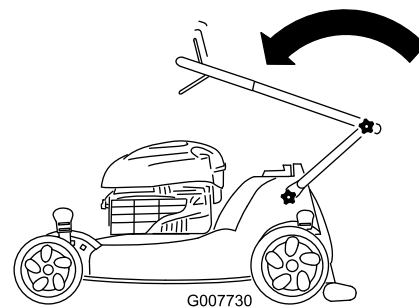

Figure 55
2. Fold the upper handle forward as shown in Figure 55.